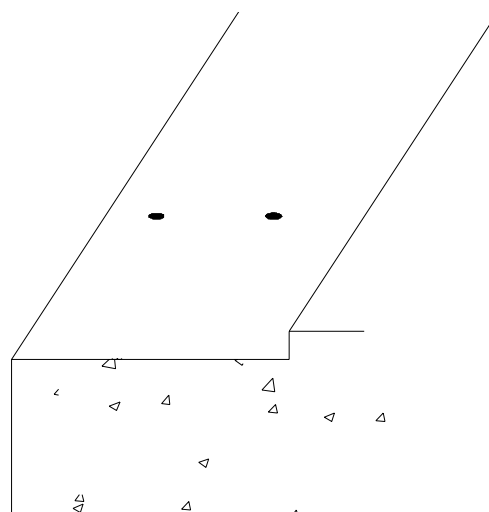

Figure 5
STEP 9. Remove the base member from its position, and drill the anchor holes into the concrete at the marked locations (see Figure 5). Drill the anchor holes 1/4" deeper than the length of the anchors. Clean away all dust and debris from the blockout.